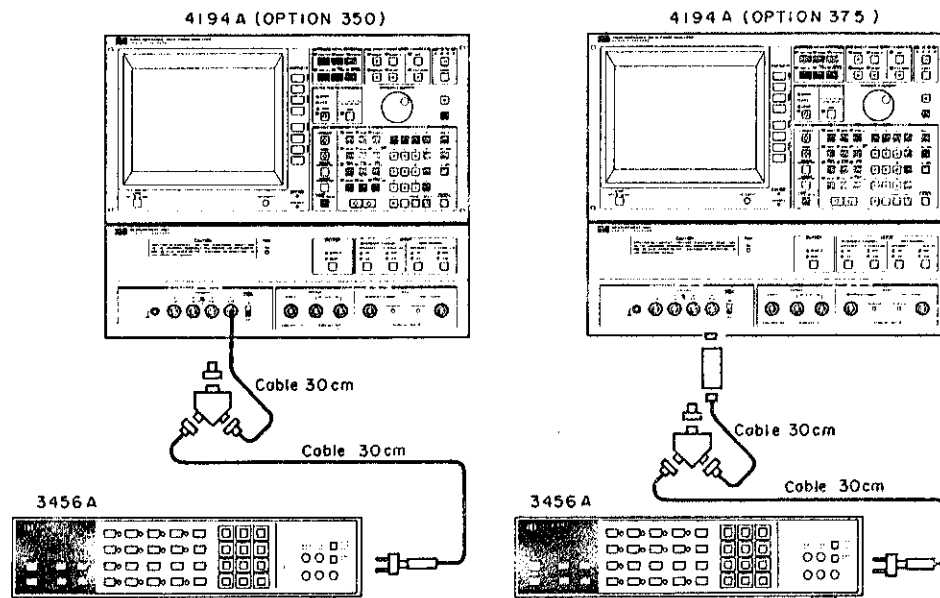

Figure 4-33. Impedance Measurement V Level Monitor Test Setup 1
1. Set up the equipment as shown in Figure 4-33. Connect the 11667A's INPUT PORT to the Hpor terminal.